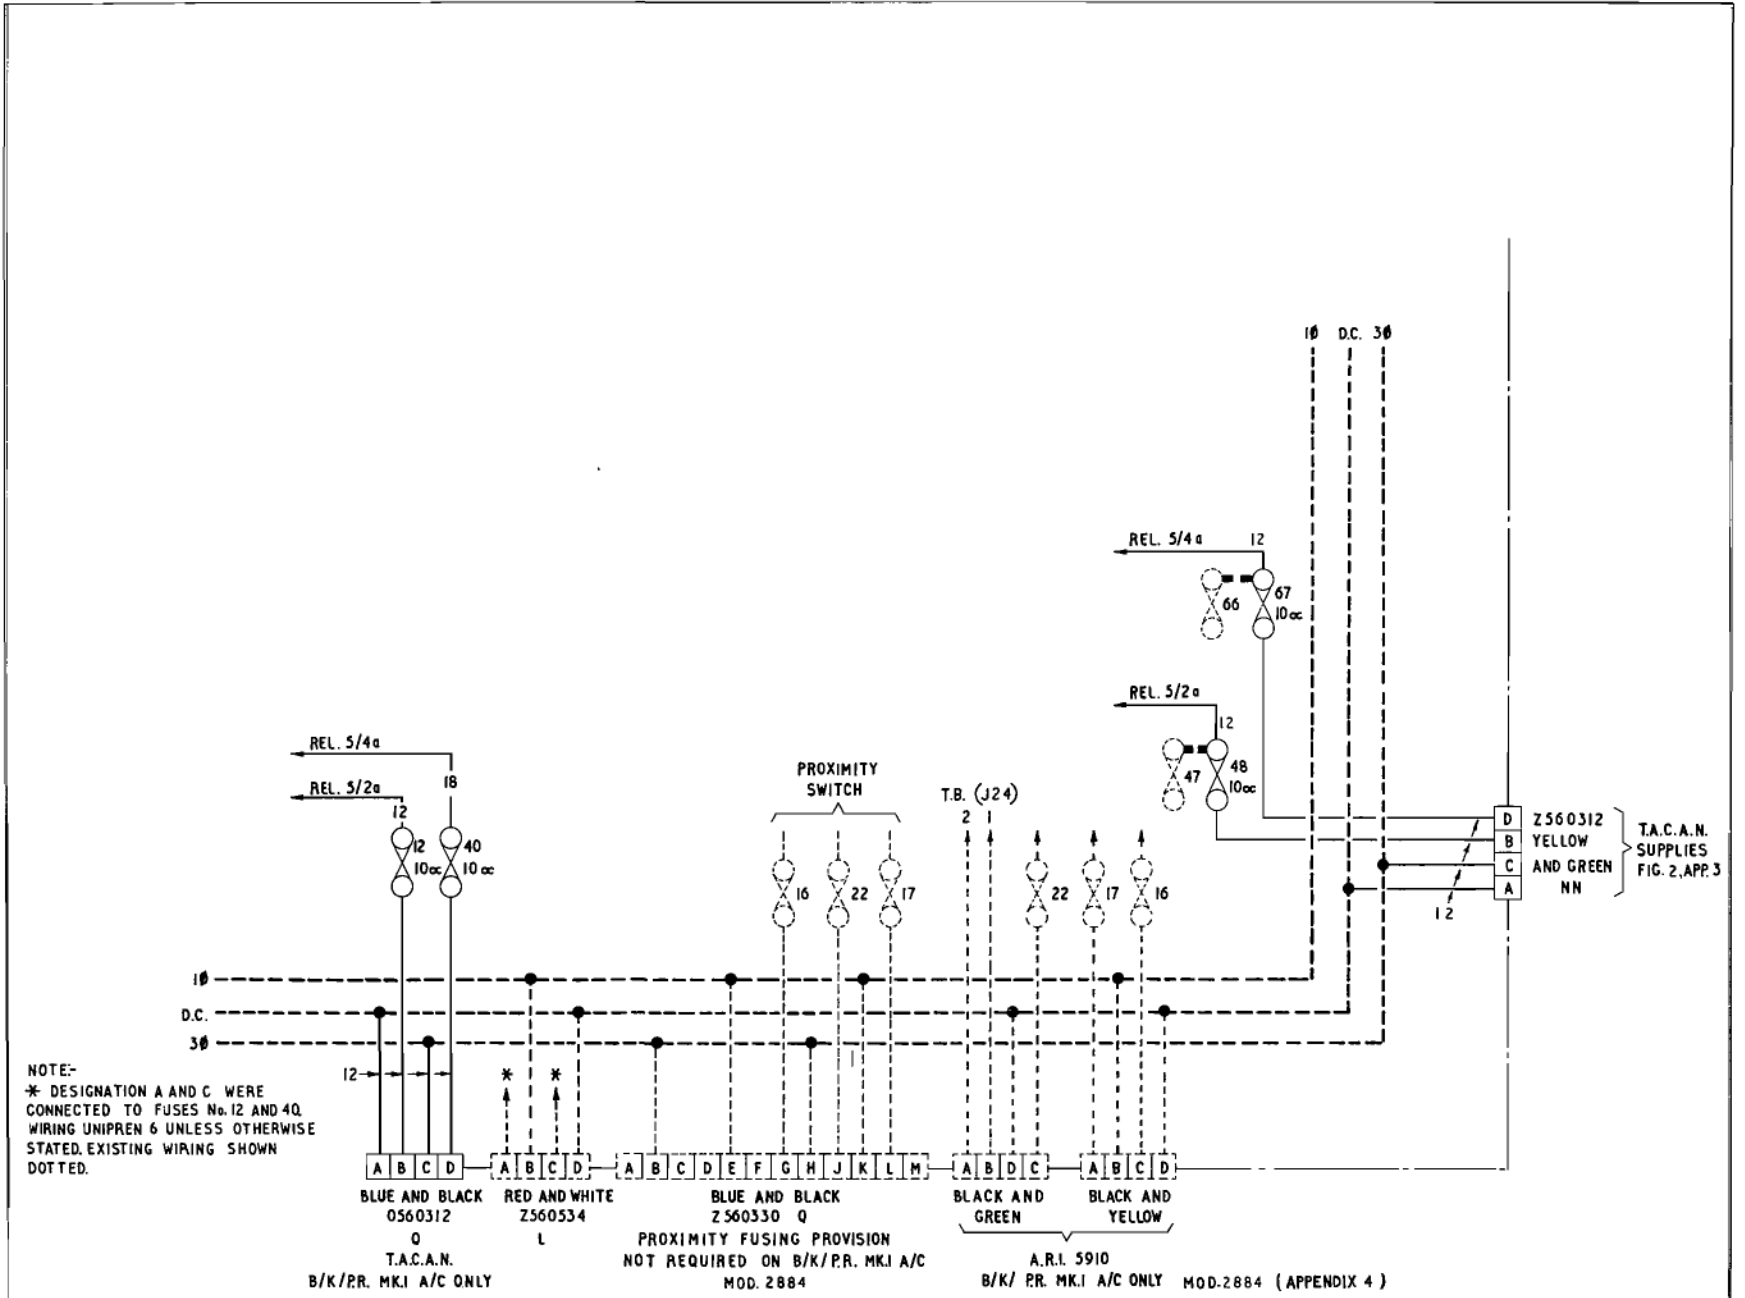

Fig. 3 Alterations to Fig. 35 (Post Mod. 3168, part A and B)
1. The A.R.I. 5910 supplies shown in Fig. 3, Appendix 3 are part of Mod. 2884. This modification is essential before Mod. 3168 can be incorporated in B/K/PR aircraft. Full details of Mod. 2884 will be incorporated in this Air Publication at a later date.